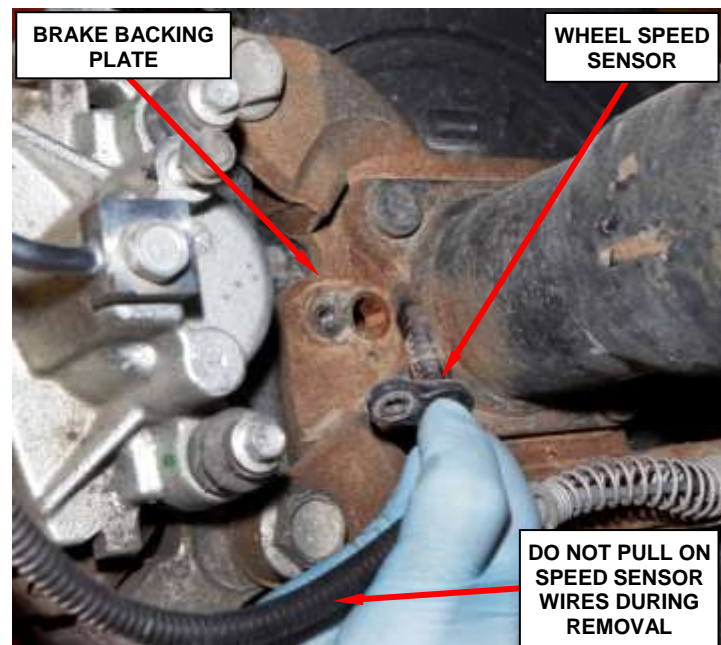

Figure 18 – Rear Wheel Speed Sensor
3. Remove the right rear and left rear wheel speed sensors from the brake backing plate (Figure 18).
32. Position the right and left side rear wheel speed sensors into the brake backing plate (Figure 18).